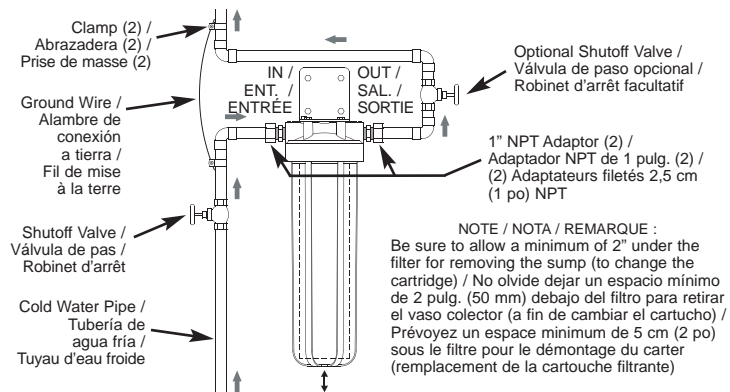
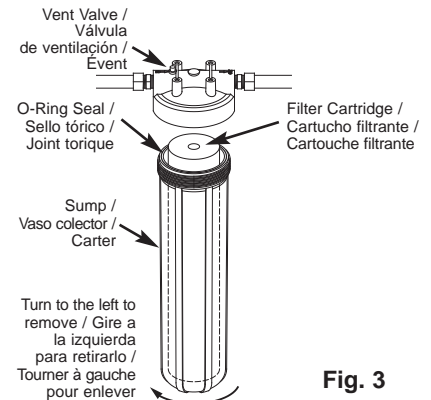

Fig. 1
Fig. 3
To filter all house water, install the filtration system on the main (COLD) supply water pipe near where it enters the house (See Figure 1).
3. Cut out a section of the COLD water supply pipe several inches long, as needed to install the filter as shown in Figure 1.
5. With the IN side of the water filter toward the incoming water, make connections, as shown in Figure 1. When tightening compression nuts, be sure to use a second wrench to hold the 1" NPT fitting while turning the nut.
The house cold water pipe is often used to ground electrical outlets in the home. Grounding protects you from electrical shock. Installing the water filter may have broken this ground. To restore, buy and install a #4 copper wire across the filter, tightly clamped at both ends, as shown in Figure 1.
1. Close the water supply shutoff valve to the filter (See Figure 1). To relieve pressure in the filter, press the vent valve on top of the filter head (See Figure 3) or open a cold water house faucet downstream of the filter.
2. Turn the sump to the left to remove from the head (See Figure 3). Be careful, as the sump is full of water. Do not lose the large o-ring seal.
8. Partially open a house faucet downstream of the filter housing. Then, slowly open the water supply shutoff valve (See Figure 1) and allow the filter housing to fill with
Pour filtrer l'eau de toute l'habitation, installez le système de filtration sur le tuyau principal d'arrivée d'eau FROIDE près de l'endroit où il entre dans la maison (voir figure 1).
1. Fermez d'abord l'arrivée d'eau du filtre (voir figure 1). Pour relâcher la pression à l'intérieur du filtre, appuyez sur l'évent situé sur le dessus de la tête du filtre (voir figure 3) ou ouvrez un robinet d'eau froide en aval du filtre.
2. Tournez le carter vers la gauche pour le séparer de la tête (voir figure 3). Prenez garde, car le carter est rempli d'eau. Ne dégagez pas le grand joint torique.